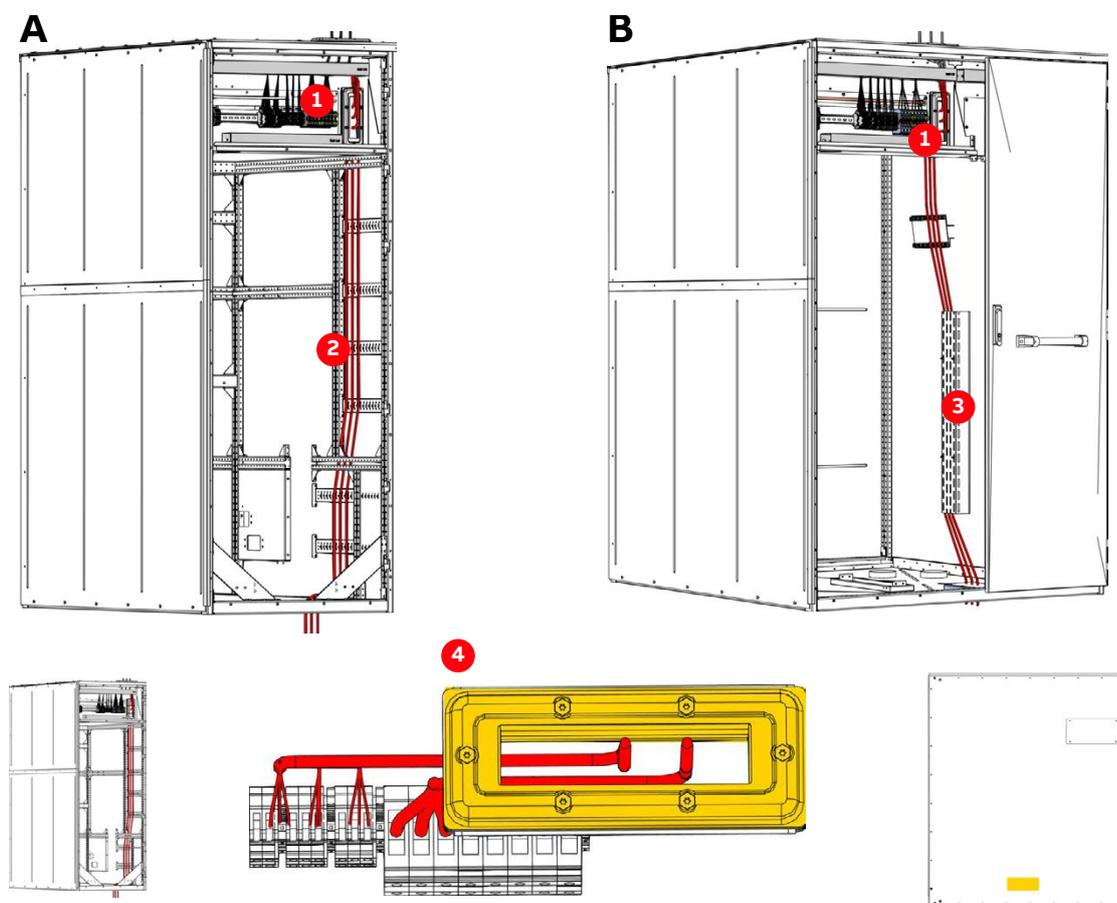

Figure 6-23 Cable routing in WCU800 (A) and WCU1400 (B) cabinets
1. Route the cables through the cable transit into the terminal compartment (Fig. 6-23: 1) of the WCU.
1. Route the cables through the floor or the top of the WCU, up the cable duct (4 in Fig. 6-23) on the right side wall and then into the terminal compartment (3 in Fig. 6-23) of the WCU.